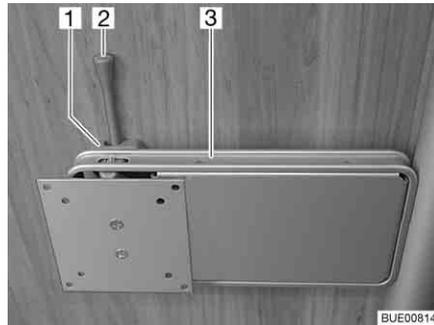

Fig. 47 Holder on the column
- Push the release lever (Fig. 47,2) to the side and turn the holder (Fig. 47,3) with the flat screen to the desired position.
- Turn flat screen back until the holder (Fig. 47,3) engages in the lock (Fig. 47,1).